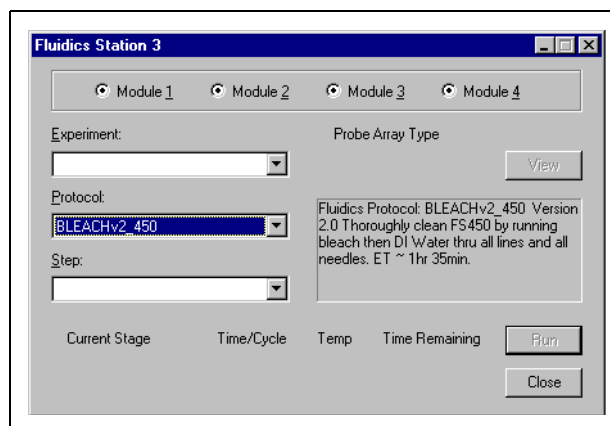

Figure 6.3
5. Open GeneChip® Operating Software (GCOS), Microarray Suite, or the current version of the Affymetrix control software. Click Run → Fluidics... from the menu. Alternatively, click the down arrow on the Protocol list on the toolbar. The protocol window appears (Figure 6.3).